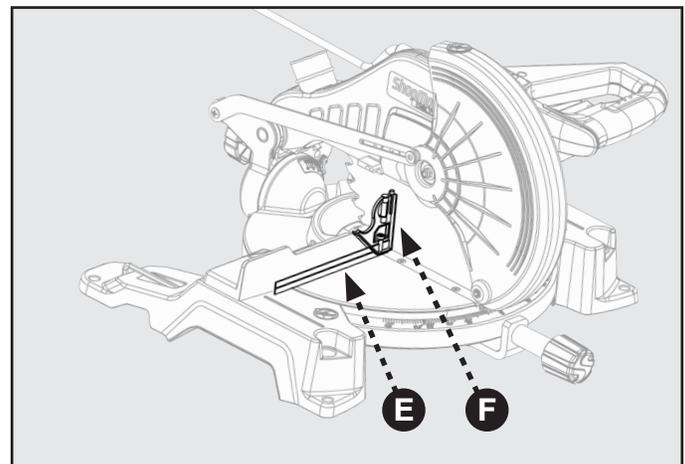

FIGURE 11
Refer to Figure 11.
7. Place a combination square (E) against the table and the face of the saw blade (F) square contacts the flat part of the saw blade, not the blade teeth.
9. The edge of the square and the saw blade should be parallel as shown in Figure 11.